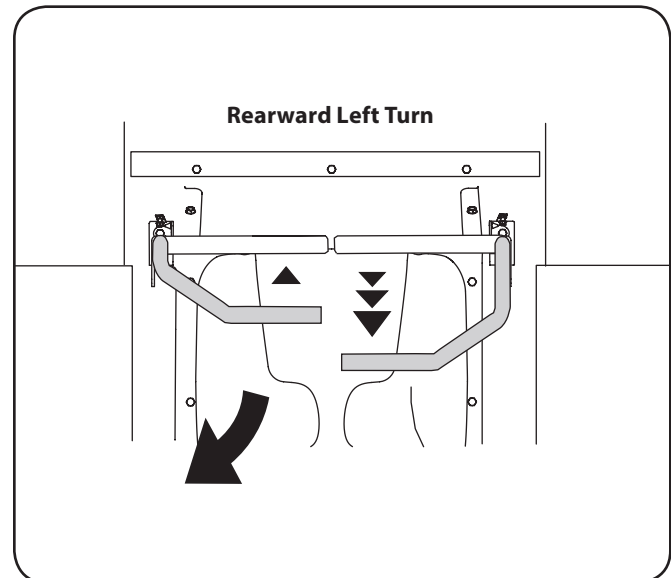

Figure 5-6
1. To turn to the left while traveling in reverse, move the left drive control lever forward of the right lever. See Figure 5-6.